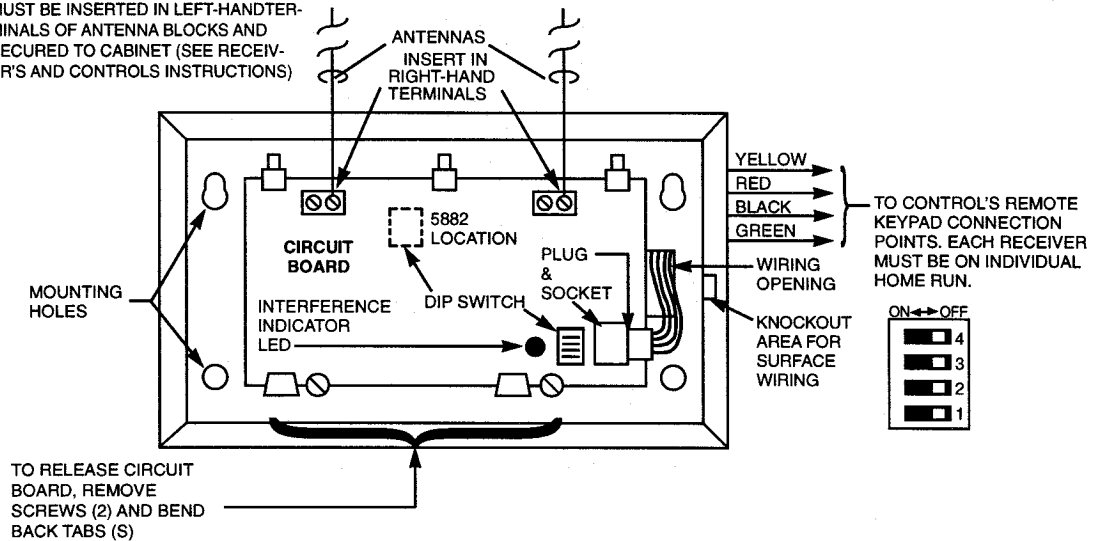

Figure 9. 5881 & 5882 Series Wireless Receivers (cover removed)
2. Make sure that the receiver's DIP switches are set for device address "0", as shown in Figure 9 (all switches to the right...OFF).
3. Connect the receiver's wire harness to the control's keypad terminals (4, 5, 6, and 7). Plug the connector at the other end of the harness into the receiver (see Figure 9).